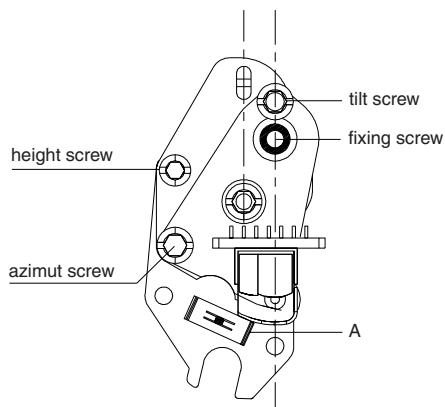

Figure 10-4
Remove the fixing spring (A) (see figure 10-4)